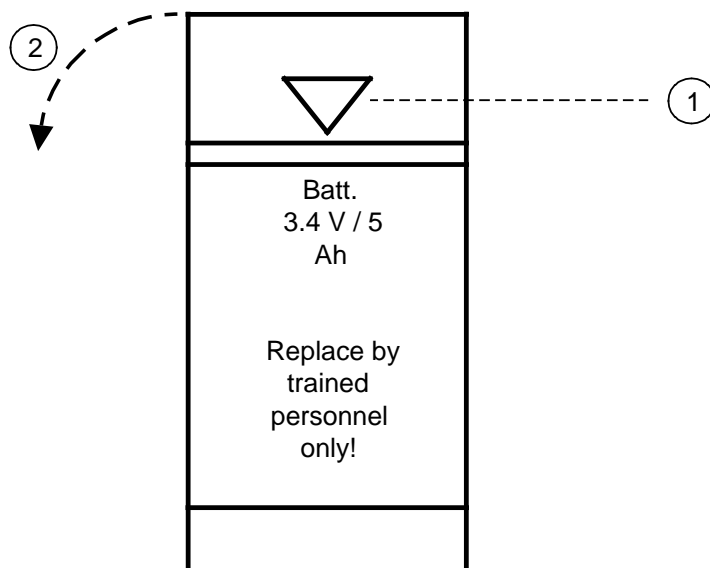

Figure B-1. Opening the Battery Compartment
1. Open the battery compartment as follows (Figure B-1)